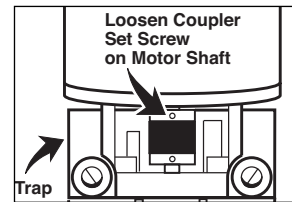
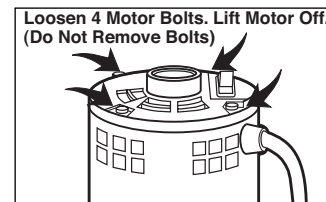
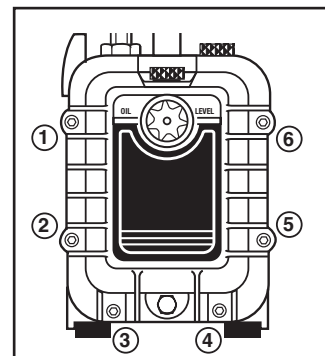
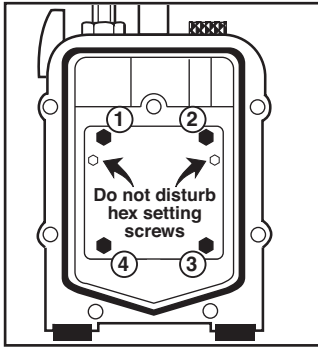

Figure 23
Figure 24
Figure 25
Figure 26
Step 2: Turn coupling until set screws are facing you. With 5/32" or 1/8" allen wrench (depending on model) loosen set screw on motor shaft (**Figure 23**). Loosen four motor bolts (**Figure 24**). Remove motor. DO NOT REMOVE BOLTS FROM MOTOR AT ANY TIME. If old cartridge is frozen, i.e. coupler will not turn, remove oil cover (**Figure 25**) and four cartridge bolts (**Figure 26**). By turning cartridge, coupler will rotate into position.
Step 3: Loosen set screws on coupler and remove coupling (**Figure 23**).
Using 3/16" allen wrench remove six socket head cap screws from oil cover (**Figure 25**).
Remove four cartridge screws with 7/16" or 3/8" wrench (**Figure 26**). Discard old gasket seal and two o-rings along with cartridge and bolts.
Step 3: Replace gasket (**Figure 26**) and reinstall oil cover to trap (**Figure 25**).